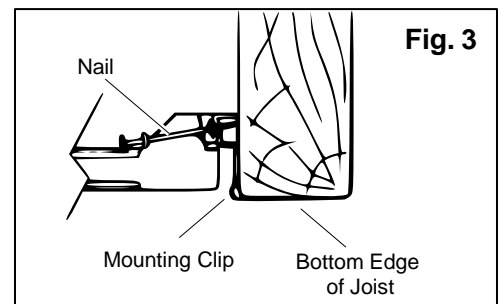
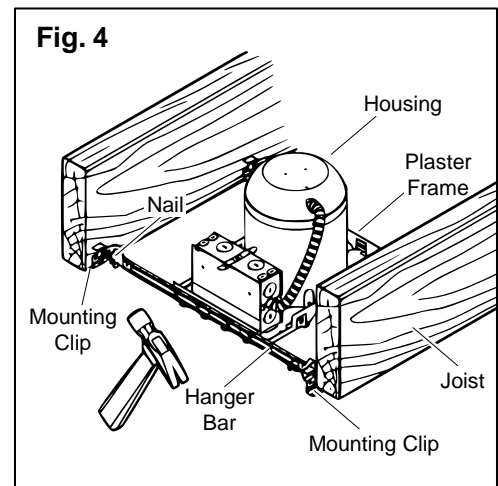

Fig. 3
Fig. 4
2. Raise the housing/hanger bar assembly to the desired location between the two ceiling joists. Adjust the width of both hanger bars to the distance between the joists. Position the assembly so that the mounting clips of the hanger bars cup underneath the bottom edges of the joists. Hammer down the nails of the hanger bars into the joists to secure the assembly into place. (FIG. 3 and FIG. 4).